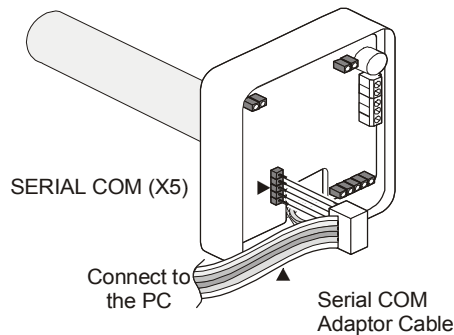
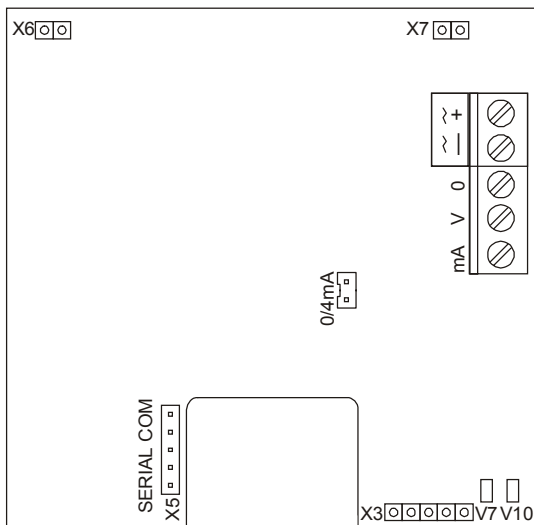

Figure 2: Connecting the COM Adaptor Cable
Figure 3: Transmitter PCB
- Connect one end of the serial COM adaptor cable to the serial COM connector (X5) on the transmitter Printed Circuit Board (PCB) (see Figure 2 and Figure 3).
Note: The serial COM adaptor cable is usually connected with the brown side down and the black side up. If set-up problems occur, try reversing the direction of the cable on the X5 connector (see Figure 2).
- Connect the other end of the serial COM adaptor cable to an available COM port on the PC (see Figure 2).
If the serial COM adaptor cable is installed properly, the green Light-Emitting Diode (LED) (V10 in Figure 3) on the product pulses with the light source. When it is incorrectly installed, the LED does not light.